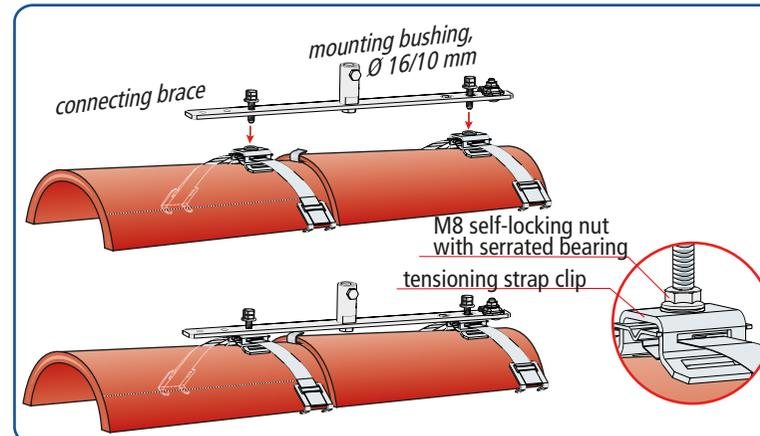

Fig. 3
- ➔ After that, screw the M8 self-locking nut with serrated bearing down tight to the connecting brace using a tightening torque of 10 Nm (see Fig. 3).